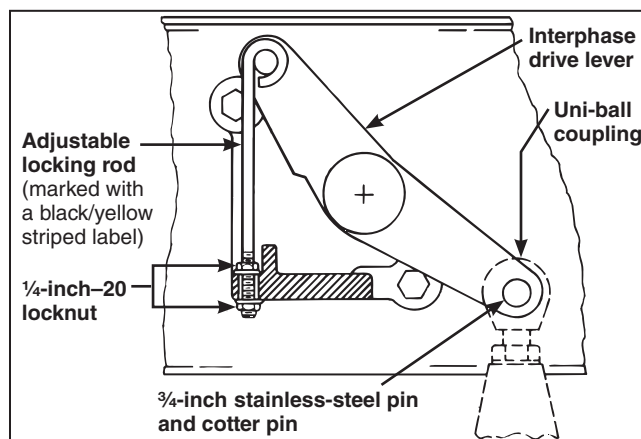

Figure 28. Check that the interphase drive lever has been connected to the uni-ball coupling. Also, check that the adjustable locking rod has been removed.
- The interphase drive lever has been connected to the operator uni-ball coupling (see Figure 28)
- The adjustable locking rod attached to the interphase drive lever has been removed (see Figures 28 and 26)